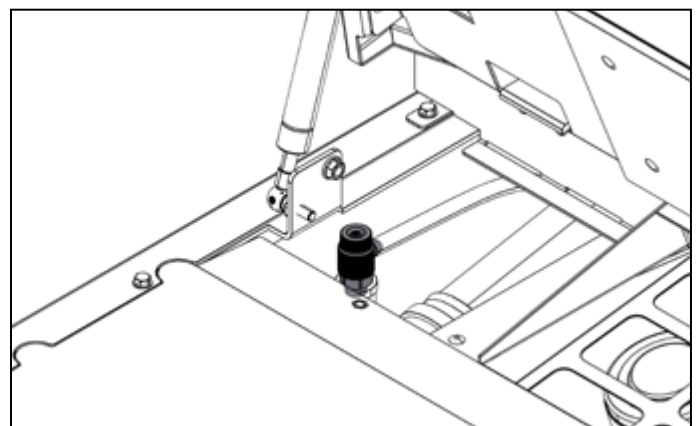

Figure 6-2: Location of manual air vent (wash system removed for clarity)
2. Open the hinged lid. Undo the single screw and remove the access cover from the rear left corner of the boiler. Pull out the air vent tube so that it will discharge any water outside the boiler and have a small container available to catch this water. Open the manual air vent located under the access cover. Refer to Figure 6-2.